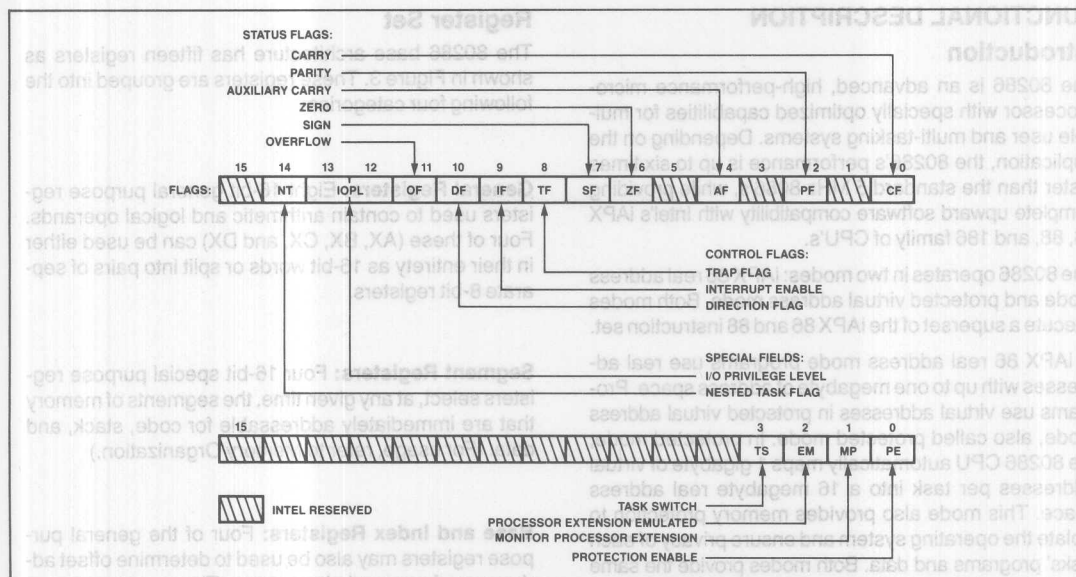

Figure 3a. Status and Control Register Bit Functions
**Status and Control Registers:** The 3 16-bit special purpose registers in figure 3A record or control certain aspects of the 80286 processor state including the Instruction Pointer, which contains the offset address of the next sequential instruction to be executed.